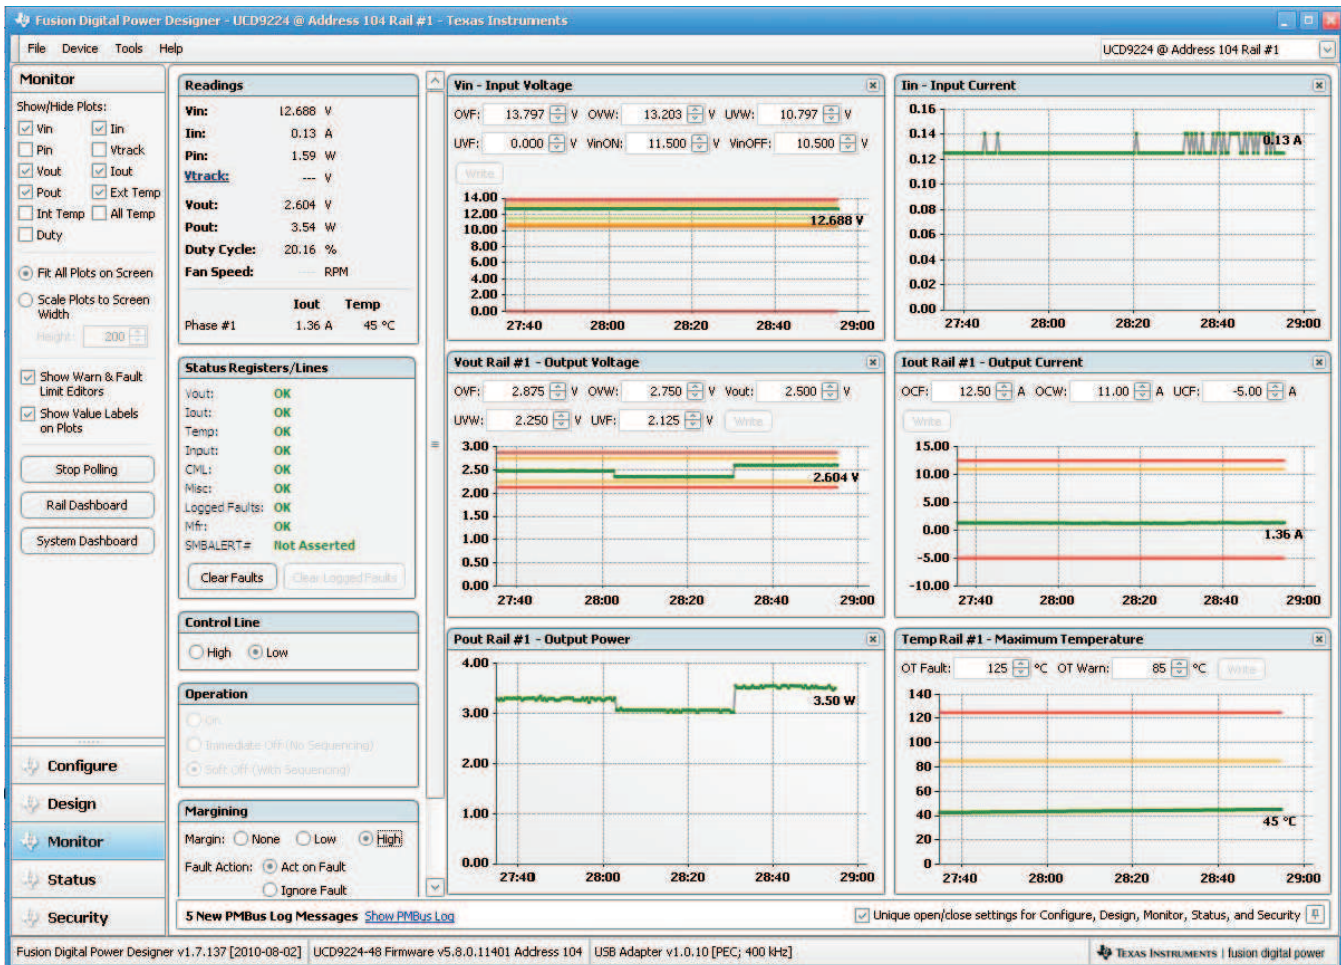

Figure 7. Fusion Digital Power Designer Software – Monitor Page – Rail #1
4. Select the Monitor Page and the window in **Figure 7** will be displayed. The operating status of the output voltage and other parameters for Rail #1 can be reviewed from this window, by default Rail #1 is always presented at the Fusion GUI startup. Rail #2 can be monitored by using the dropdown selection in the upper right corner of the monitoring window and selecting UCD9224 @ Address xxx Rail #2. The red horizontal lines that are present in most of the plots indicate the fault limits for this parameter and the yellow lines are the warning levels.
In the V_{OUT} Rail #1 plot shown in **Figure 7**, the voltage can be seen to shift down slightly and then up slightly when referenced to the earlier section of the plot. This reflects the application of margining to the output voltage with the Margin High setting still visible at the bottom of the column just to the left of the plots.